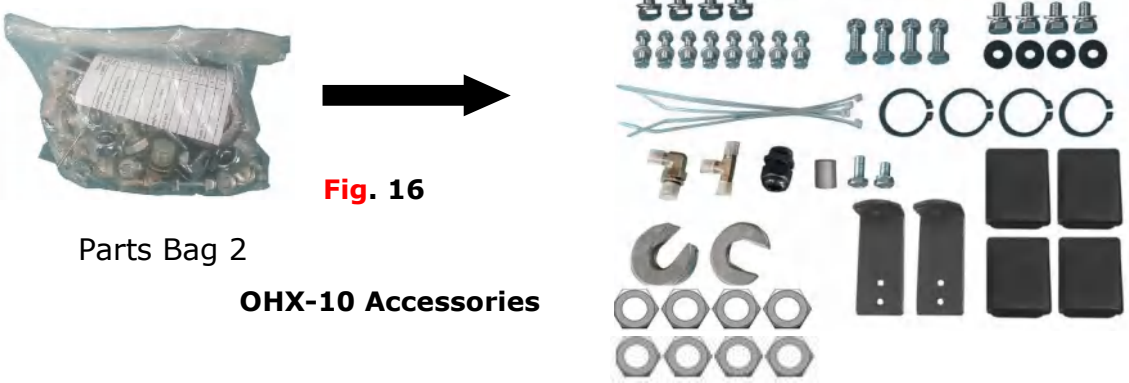

Fig. 16
6. Open the Parts Bag 2 of parts and check the parts according to parts bag list **(See Fig. 16 & 17).**